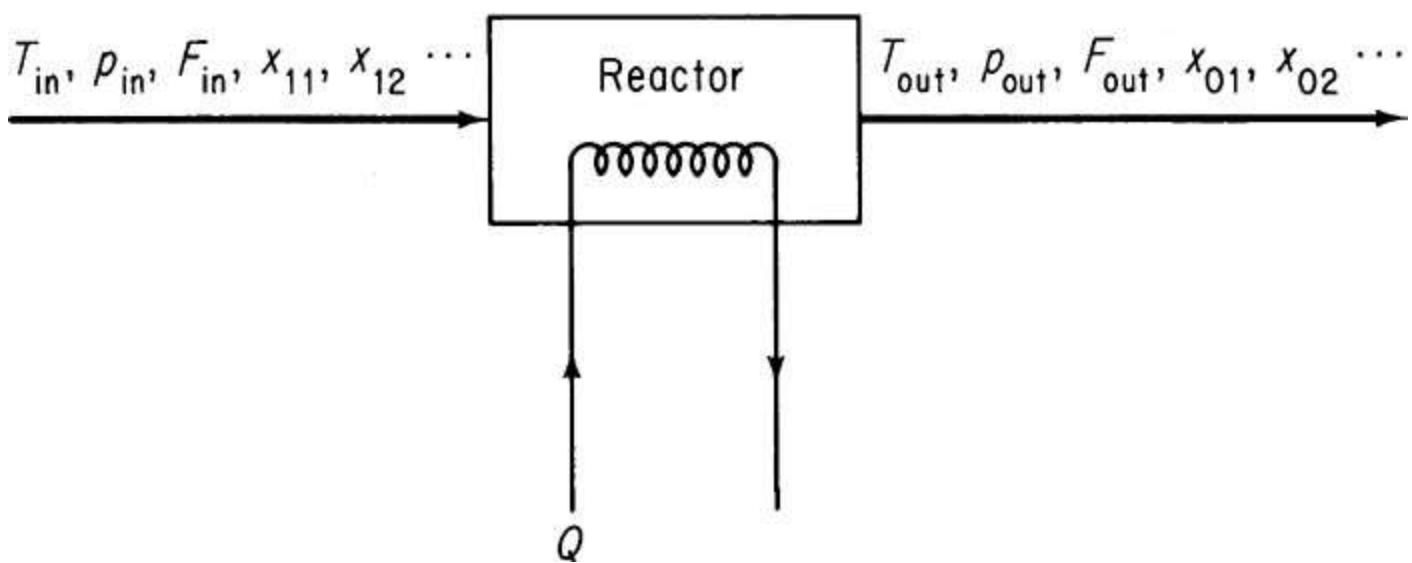

Figure P12.5
- 12.5. In a reactor model, rather than assume that the components exit from the reactor at equilibrium, an engineer will specify the r independent reactions that occur in the reactor, and the extent of each reaction, ξ_i . The reactor model must also provide for heating or cooling. How many degrees of freedom are associated with such a reactor model? See Figure P12.5.